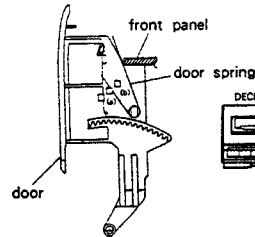
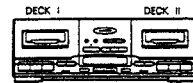

Fig. 6-2
Fig. 6-3
- When assembling the front panel attach the door spring to the position (a) according to fig. 6-2, and stand the front panel assembly straight up as shown in fig. 6-3.